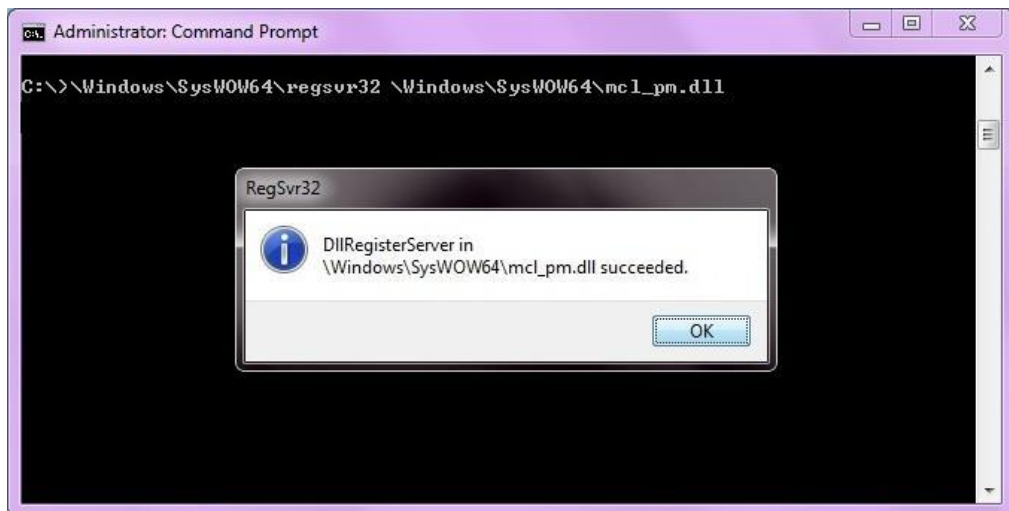

Fig 1.1.2d: Registering the DLL Using the Command Prompt in Windows 7
- b. For 64 bit Windows operating systems (see Fig 1.1.2d) type: